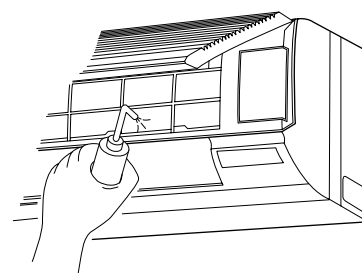

Fig. 18
- After connecting all pipes, carry out a drain check by opening the front panel, removing the air filter, pouring some water into the drain pan, and making sure the water drains out of the hose smoothly. **(Refer to Fig. 18)**